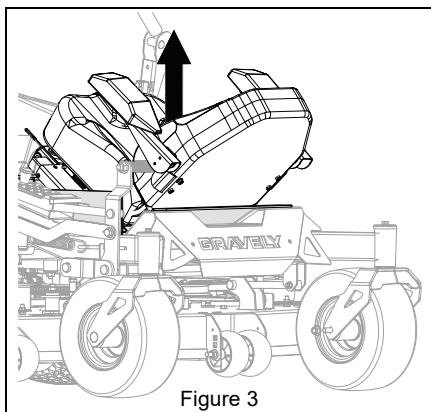

Figure 3
3. Remove seat from footplate. See Figure 3.